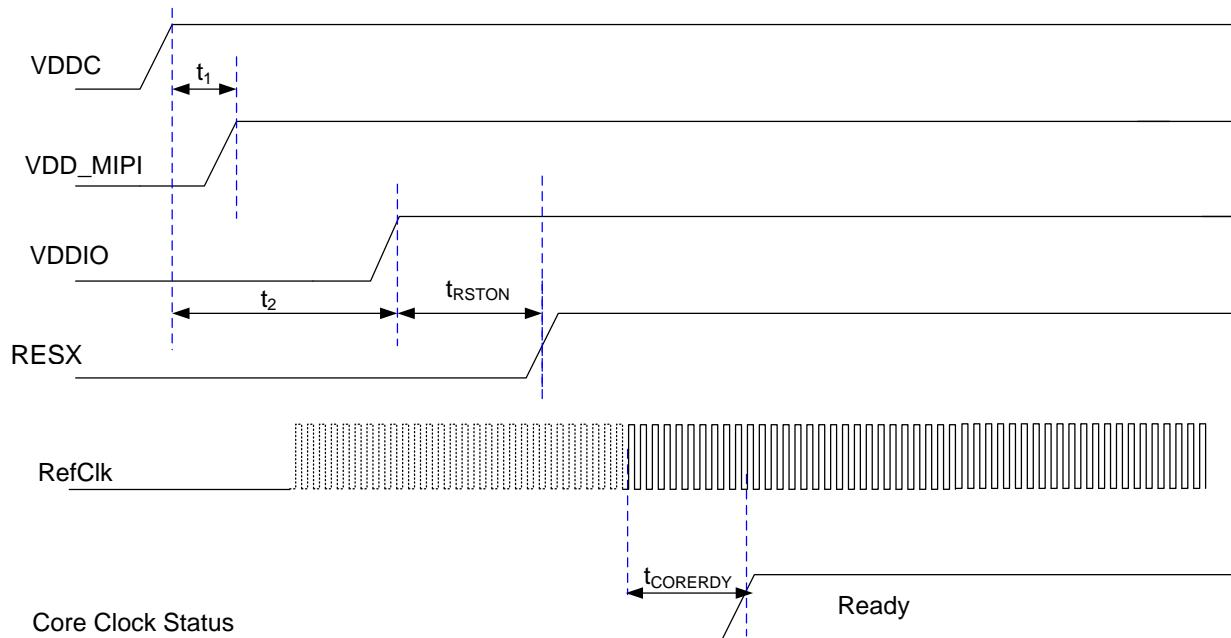
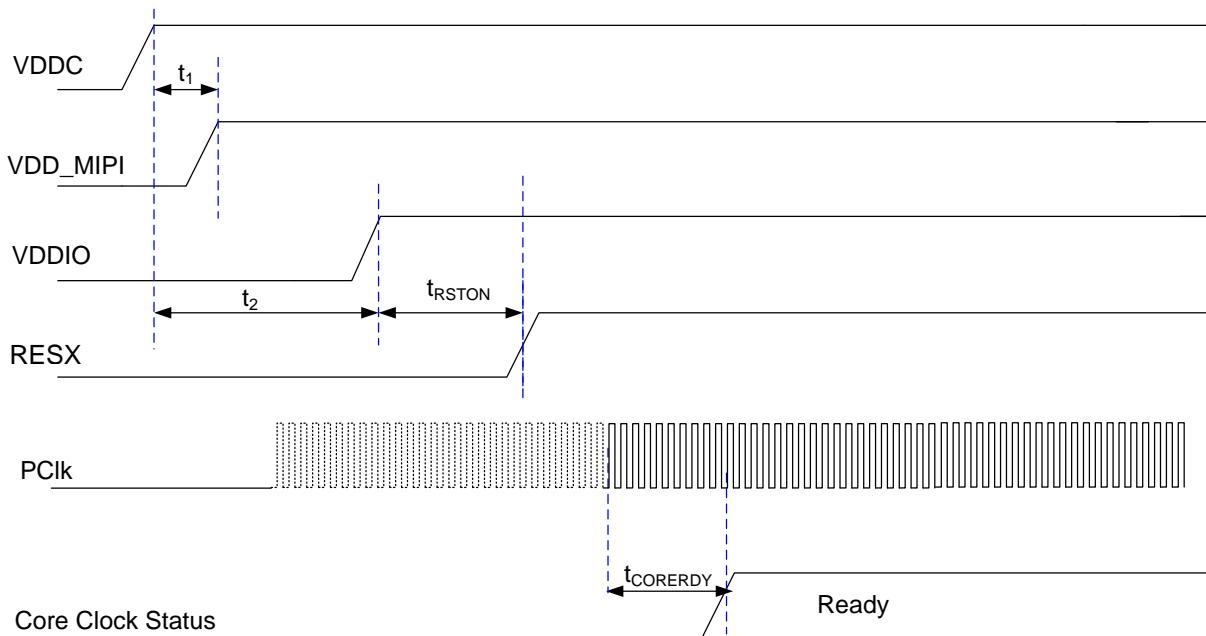

Figure 5.2 Power On Sequence (When RefClk is Available to Drive PLL)
Figure 5.3 Power On Sequence (When PCIk is used to Drive PLL in Parallel In Mode)
2. For voltage source, it is desired to turn on core power (1.2) source first, then Analog PHY and IO power as shown in Figure 5.2 Power On Sequence. RefClk can be provided either before or after the de-assertion of RESX as indicated by the dash line.
3. In CSI-2 Tx mode, RefClk can be tie to ground. In this case, PClk/4 will be used to drive PLL, Figure 5.3.
4. The timing parameters for Figure 5.2 and Figure 5.3 are tabulated in Table 5.3.